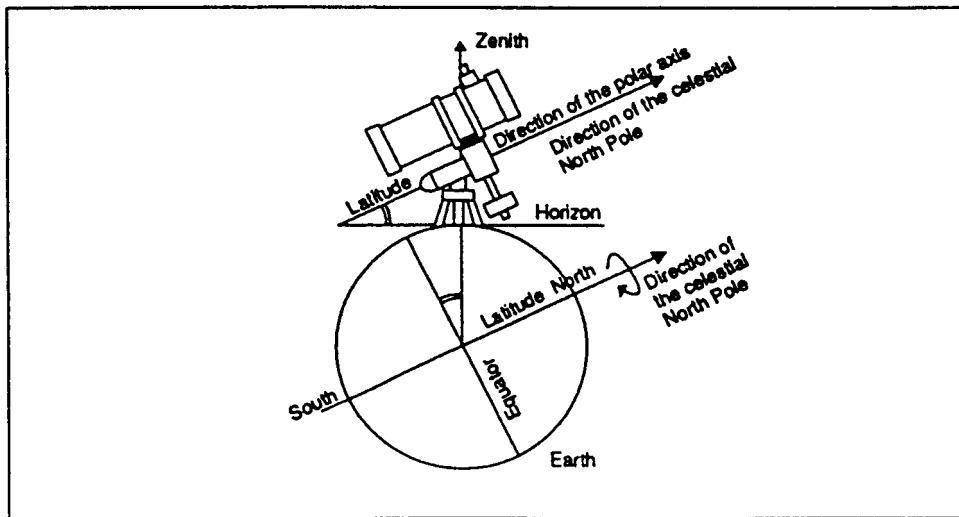

Figure 7
Polar alignment is the process by which the telescope's axis of rotation is aligned (made parallel) with the Earth's axis of rotation (see figure 7). Once aligned, a telescope with a motor drive will track the stars as they move across the sky. The result is that objects being observed through the telescope appear stationary (i.e., they will not drift out of the field of view). If your telescope does not use a motor drive, all celestial objects in the sky (day or night) will slowly drift out of the field. This motion is caused by the Earth's rotation. Even if you are not using a motor drive, polar alignment is still desirable since it will reduce the number of corrections needed to follow an object and limit all corrections to one axis (R.A.). There are several methods of polar alignment, all of which work on a similar principle, but are performed somewhat differently.
1. The right ascension (polar) axis should be pointed towards the North Pole (see figure 7).